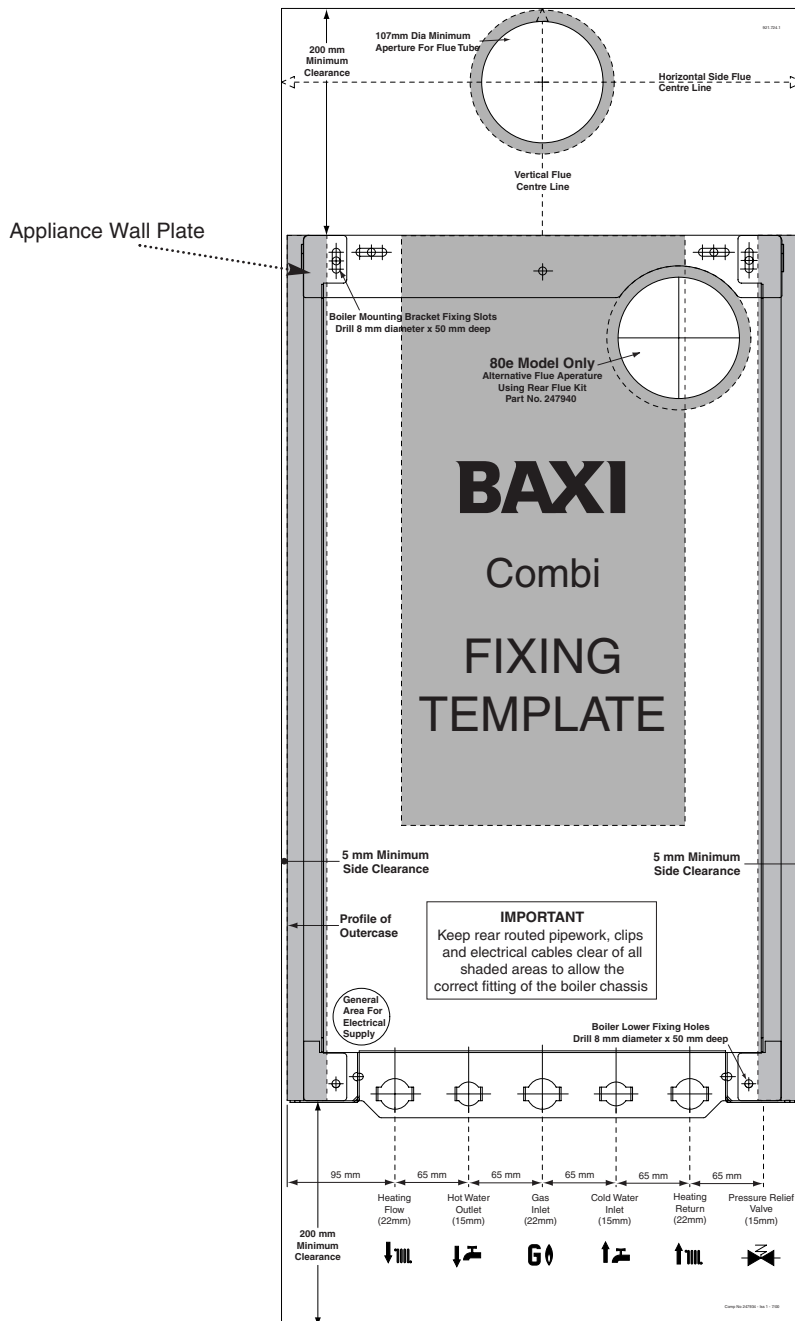

Fig. 17
1. After considering the site requirements (see Section 7.0) position the fixing template (Fig. 17) on the wall ensuring it is level both horizontally and vertically.